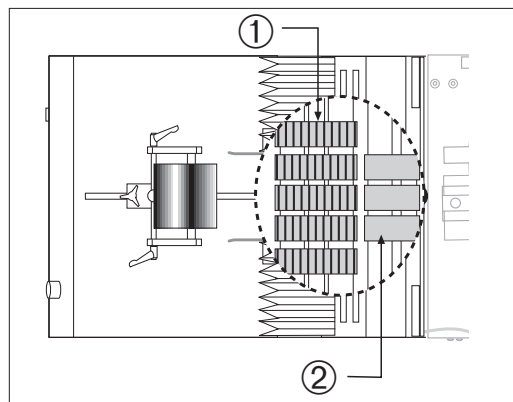

Figure 24. Inspecting Feed and Discharge Belts
Referring to Figure 24, ① and ②, check for visual signs of: